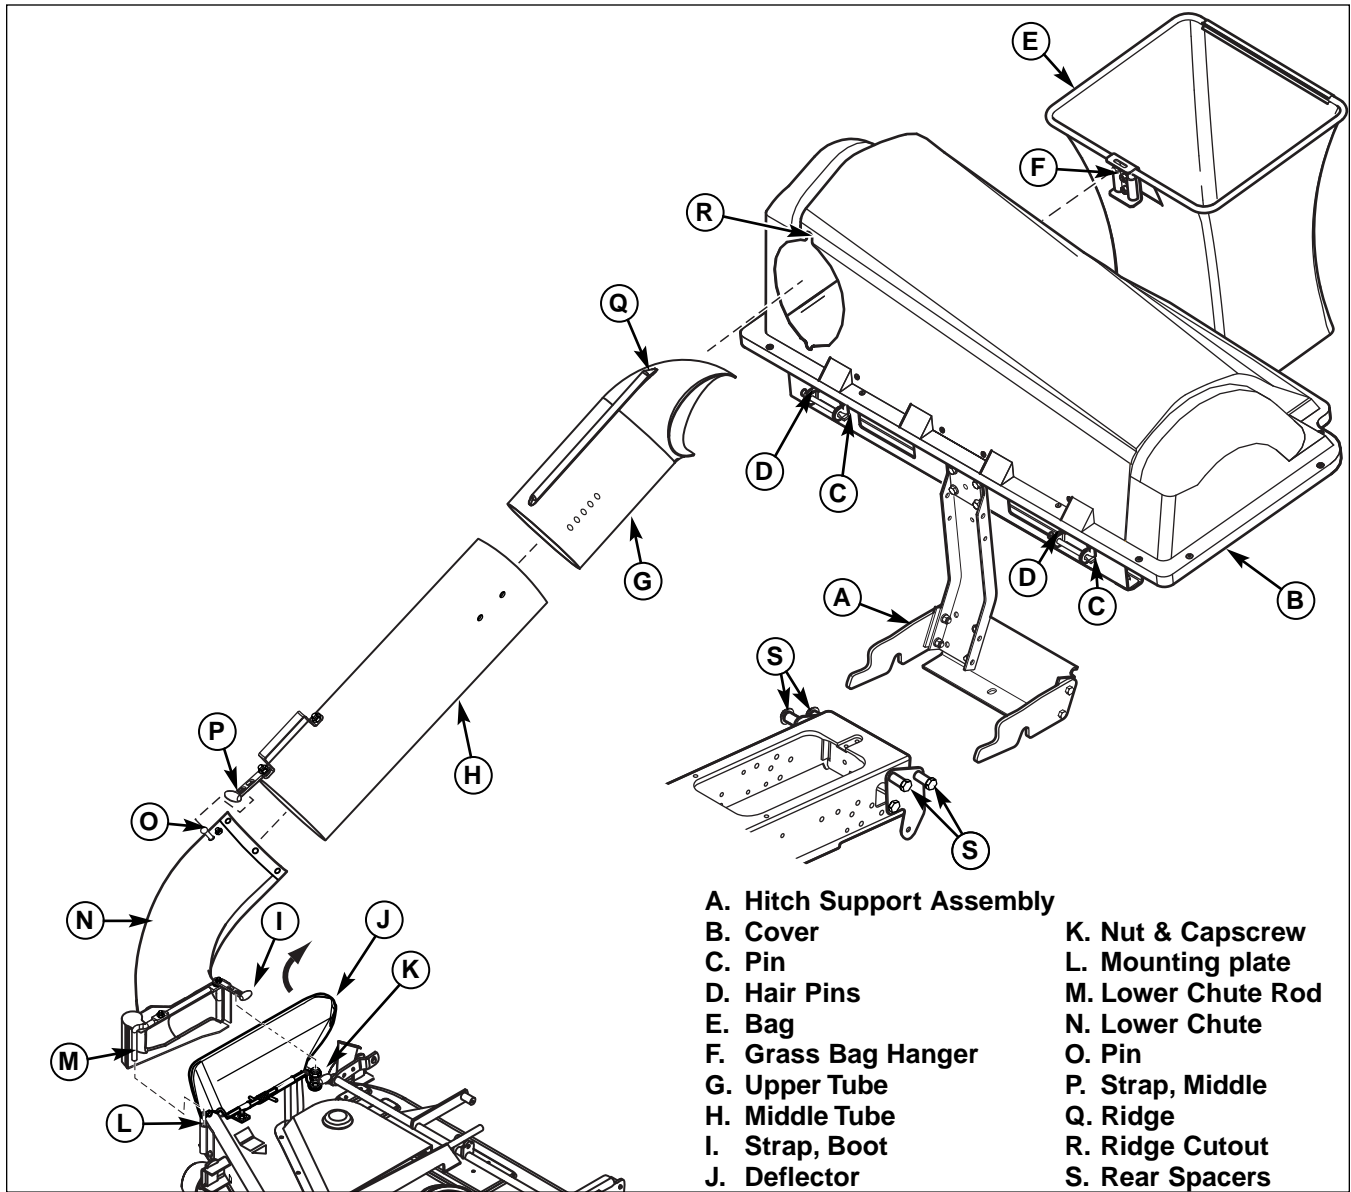

**Figure 16. Install Middle Tube**
2. See Figure 16 for correct hole location and secure the upper tube (E) to middle tube using screw (F).
2. Slide middle tube (D, Figure 16) into upper tube (E).
3. Slide middle tube (D) over boot (A). Pull strap (B) and place hole completely over pin (C).